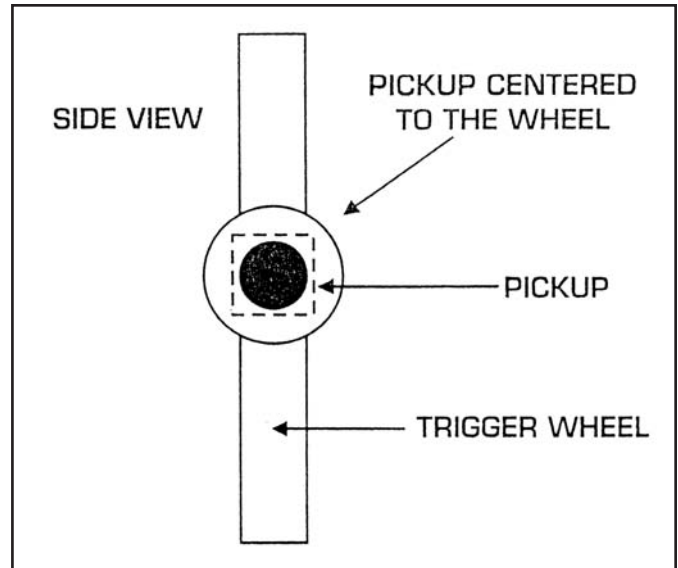

FIGURE 2 PICKUP CENTERED ON THE TRIGGER WHEEL.
3. Check and make sure the wheel is positioned correctly with the pickup and torque the trigger wheel bolts to 25-30 lb-ft. The pickup should be centered to the edge of the trigger wheel (*Figure 2*). If not, it may be necessary to add or delete shims to the pickup bracket to achieve the proper position.